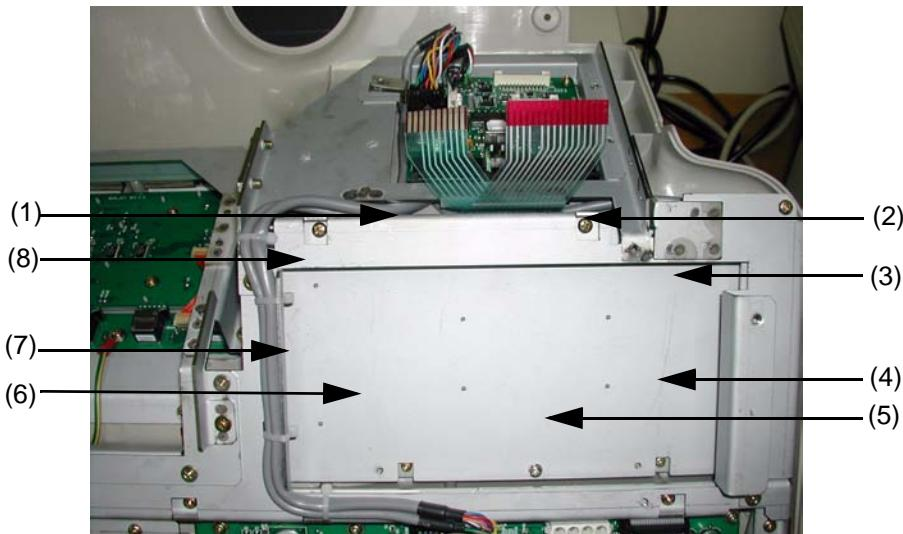

Figure 8-33 Unscrew 8 screws
- 5.) Unscrew eight (8) screws (1-8) to remove the A/N keyboard Assy. Refer to Figure 8-33.